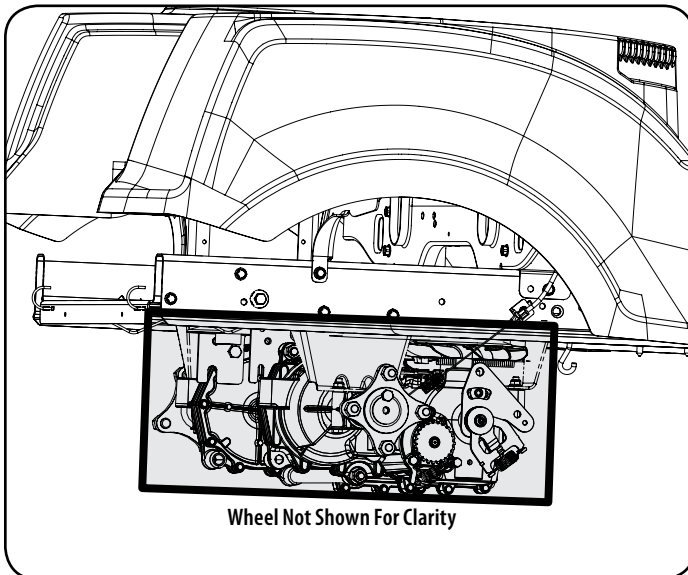

Figure 25
- Clean around and near the transmission, axle and the fan area. See Figure 25.